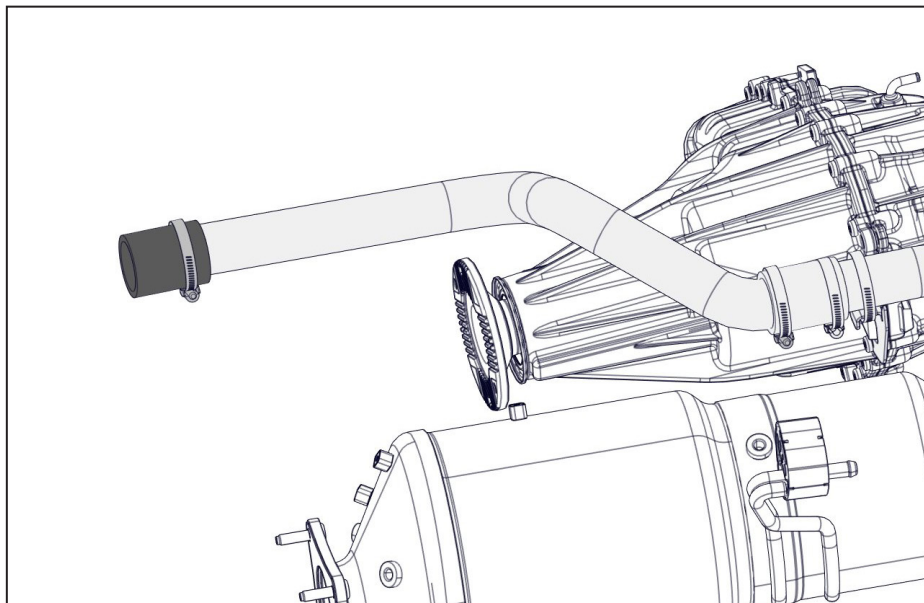

Figure 25 — Install intake hose extension
- ☐ Install the rubber air intake hose coupler onto the intake tube and secure it with a gear clamp (Figure 25).